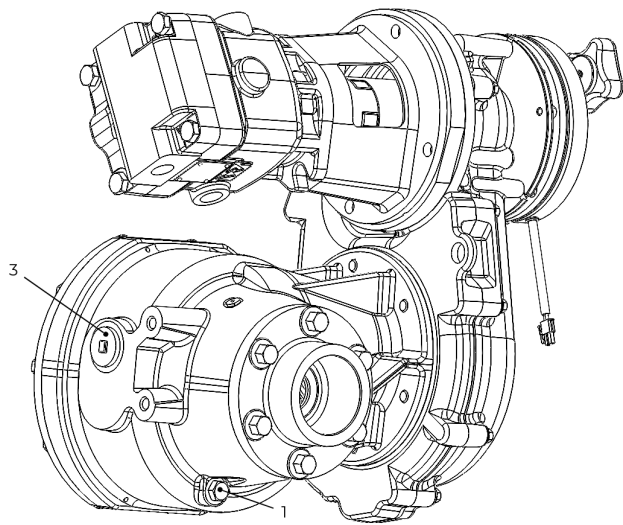

Figure 40. Cast-iron Case Drain and Filler Plugs.
3. Remove the cast-iron case filler plug (3). (Figure 40)